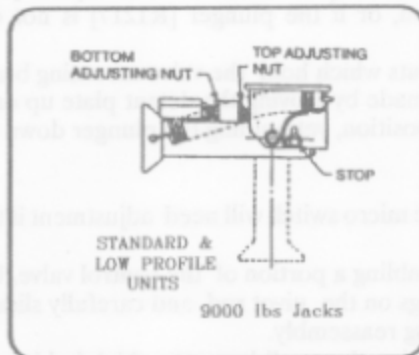

Fig. 3
2. 9000# JACKS: Each jack should be checked to be sure that it is vertical when it swings down. To do this, retract all jacks, then extend each jack until it is close to, but not touching the ground. If the jack stopped short of being vertical, it can be adjusted by loosening the upper adjusting nut and tighten the lower nut.[Fig.3]
The horizontal stop can be adjusted up or down in the slot to provide clearance for objects which may interfere with the operation of the jack.[Fig.3] The stop must be adjusted so that the jack can be fully extended in the horizontal position without interfering with suspension components or tanks, etc.